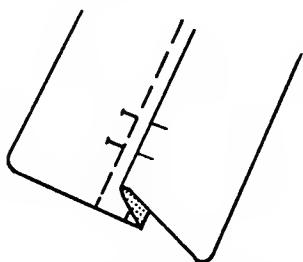

Fig. 278. A side pleat.
1. A side (knife) pleat is a pleat with a folded edge turned in one direction. It may be used singly or in groups, all turned in one direction (Fig. 278).